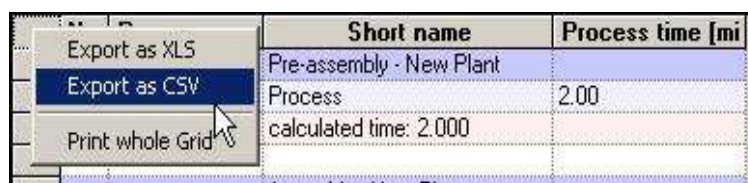

Figure 48: Opening a Contextual Menu – Exporting a Balancing List
- 2) Press right mouse button to open the contextual menu. *Please refer to the Figure 48.*